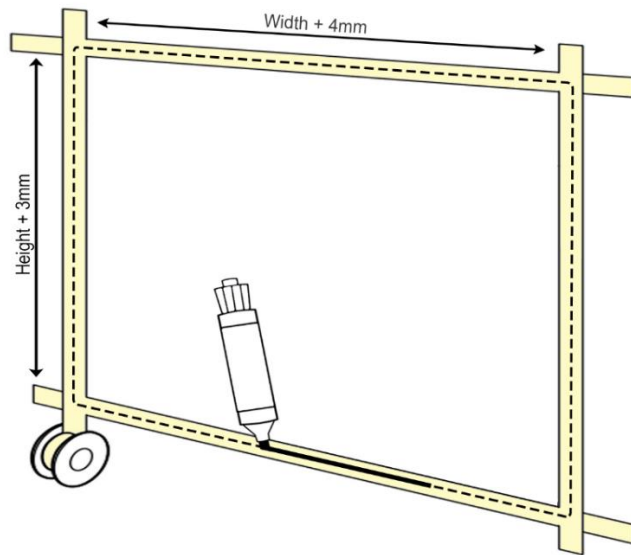

Fig 6
- Make a template using plywood or cardboard of the outer window (PART A) allowing an extra 3mm on the height (one side) and 4mm on the width (one side) (Fig 6).